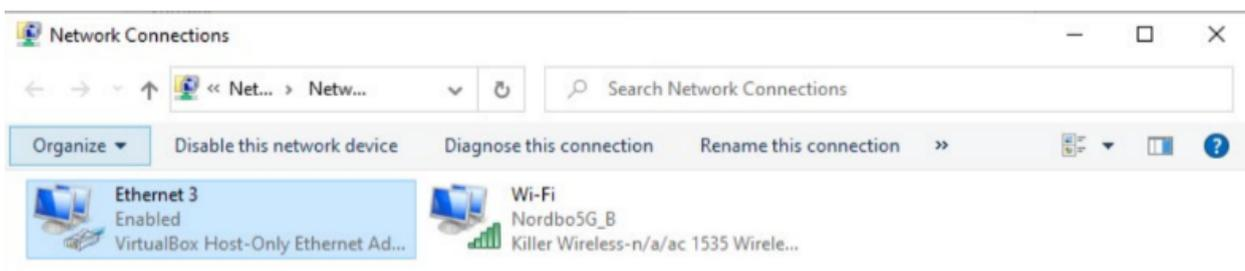

Figure 9
**Step 4.** Right-click on “Ethernet 3” and select “properties.” (figure 9)